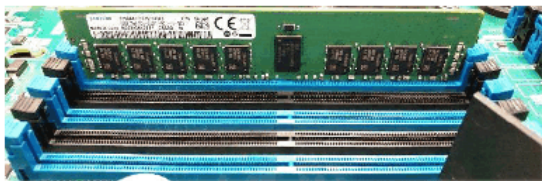

Figure 101. Installing the DIMM
13. Insert the DIMM into the connector by aligning the edges of the DIMM with the slots at the ends of the DIMM connector, as shown in Figure 101 on page 141.